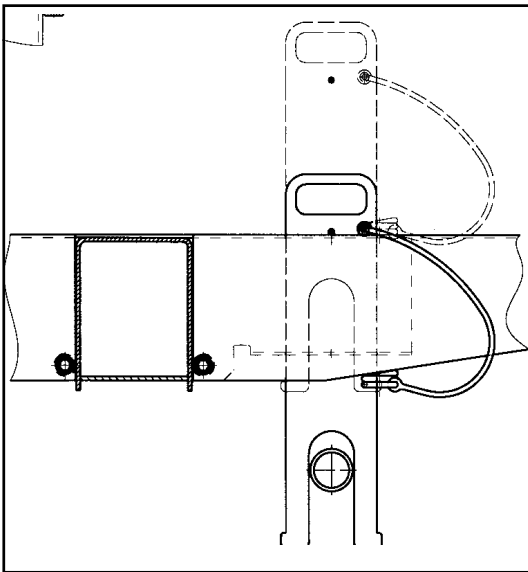

Figure 3-6
- Unlock the protection device against rotation and secure it (figure 3-6)
- Fasten the safety device of the rotary unit (f) and secure it (figure 3-6 and 3-9)